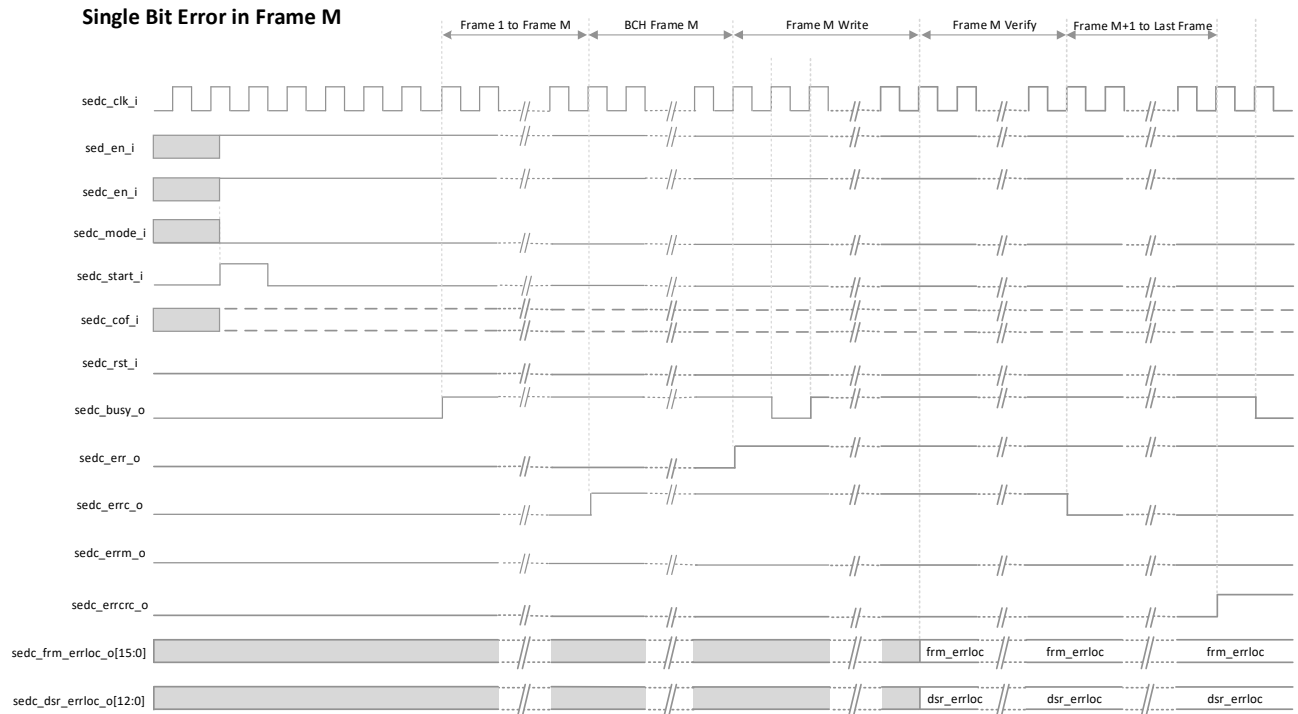

Figure 6.4. One-shot Mode with Correctable Error (sedc\_cof\_i = 0/1)
**Note:** Soft Error Correction only occurs if sed\_en\_i (soft error correction enable) is set. If sed\_en\_i is not set, sedc\_busy\_o remains asserted high until all frames are checked, regardless of error state as shown in Figure 6.4 and Figure 6.5.